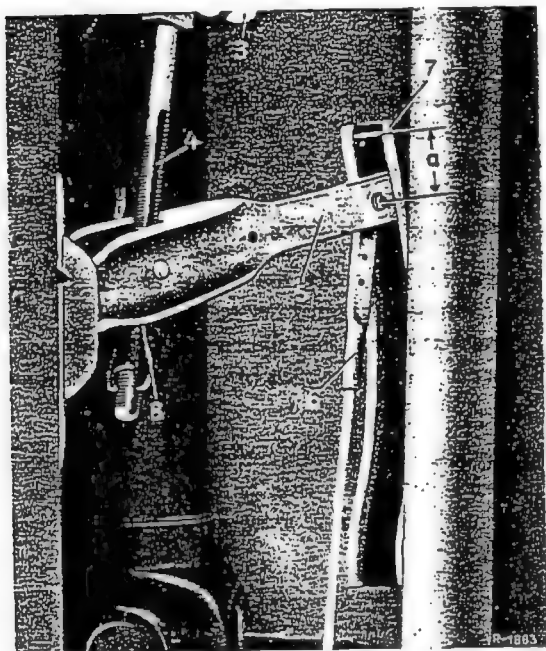

Fig. 42-20/12
With the ratchet completely released, attach the four-hole end-piece of the center brake cable (6) to the relay lever (5) in such a way that the distance from center cotter pin hole of the guide plate (7) to center bore relay lever (for center brake cable) is $a = 20$ to 40 mm (Fig. 42-20/12).
Back out the wing nut (8) on the tensioning screw (4) until the tension levers of the hand brake caliper are in their released position (see Fig. 42-20/12). Then tighten the wing nut until the tension levers are just beginning to move. Proceeding from this adjustment, back off the wing nut one half turn. Then actuate the ratchet several times so that the distance between lining carrier and brake disk can adjust itself properly (approx. 0.2 mm clearance between the brake lining of the friction pad and the brake disk). When the length of the brake cable has been properly adjusted, it should be possible to pull out the ratchet 5 to 10 notches with medium force.